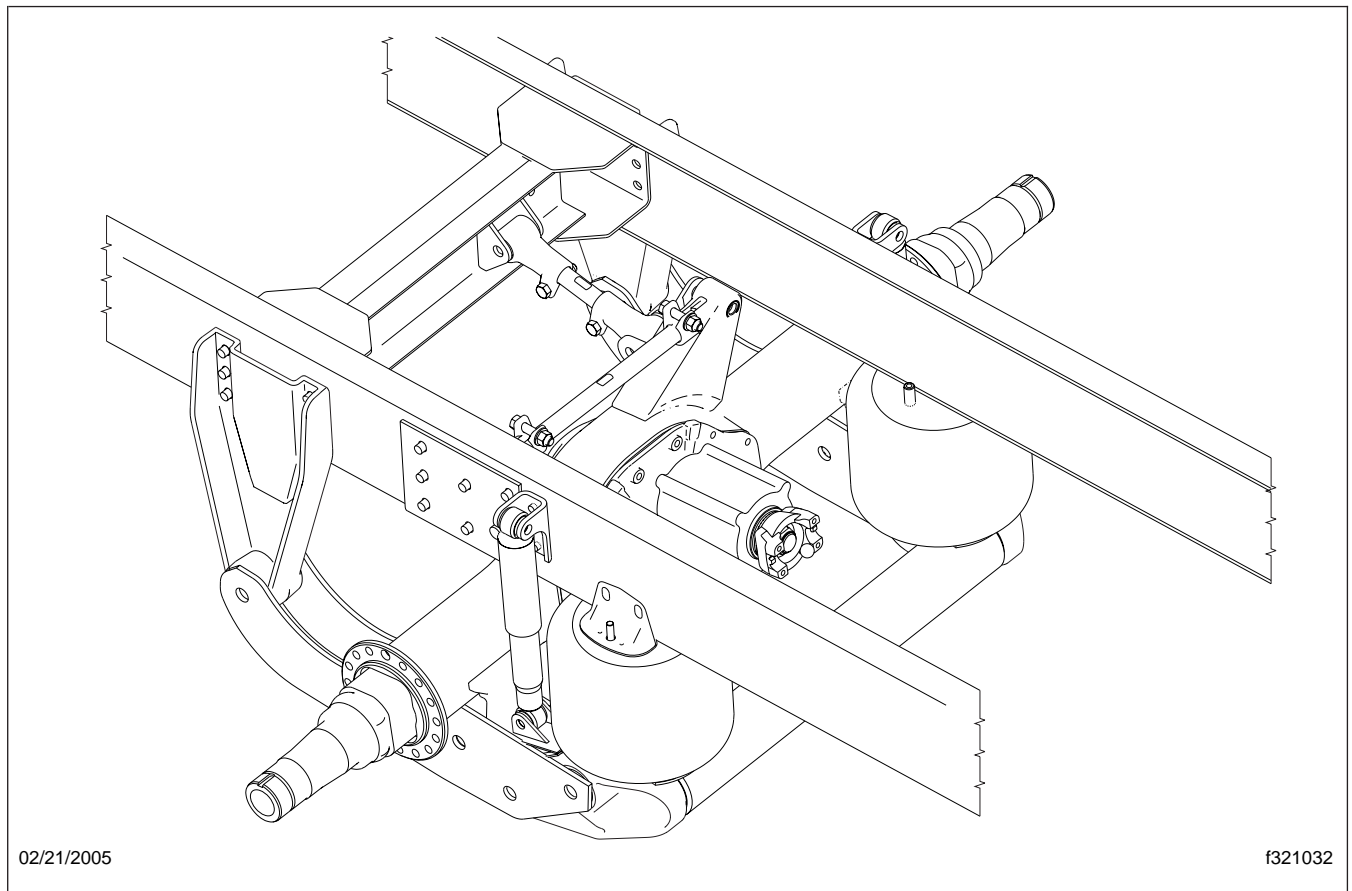

Fig. 4, Holland® Neway® ADL 120/123 Suspension
1. Chock the front or the rear tires. Working at the front of the vehicle or at the rear of the vehicle, raise the vehicle so that the tires just clear the ground and the suspension is fully extended. Place safety stands under the vehicle frame. See **Fig. 4**.